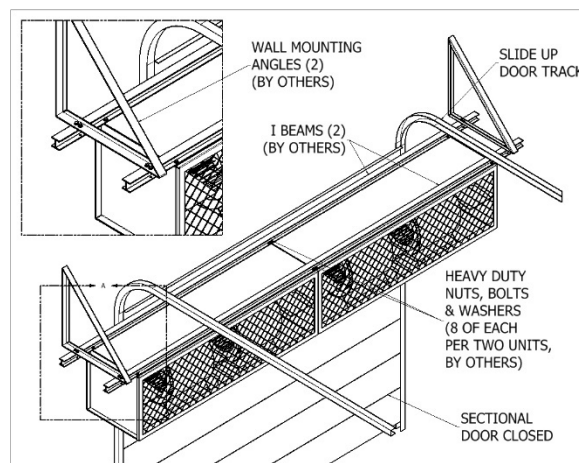

FIG. 7 (WMI/WMH Shown)
**Note:** Angle brackets, threaded rods and I Beams are provided by others. (FIGS. 7 & 8) All optional brackets are not available for WMI/WMH and BD Series.